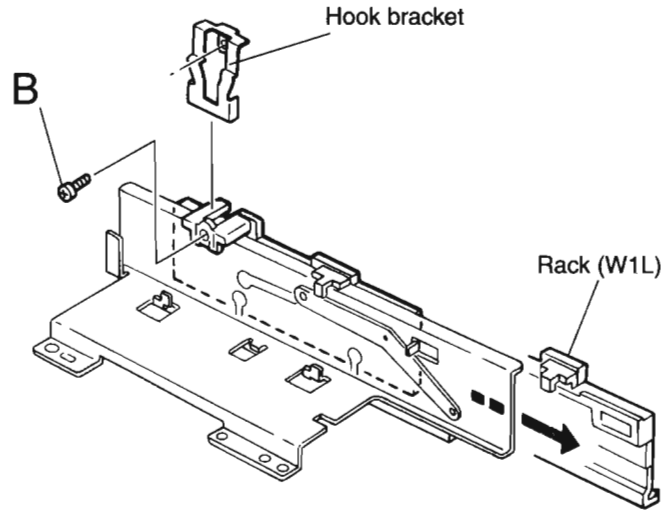

Fig.23
## ■ Removing the Rack guide base assembly (L) (see Fig.23 and 24)
2. Move Rack (W1L) in the direction of the arrow to remove (see Fig.23).